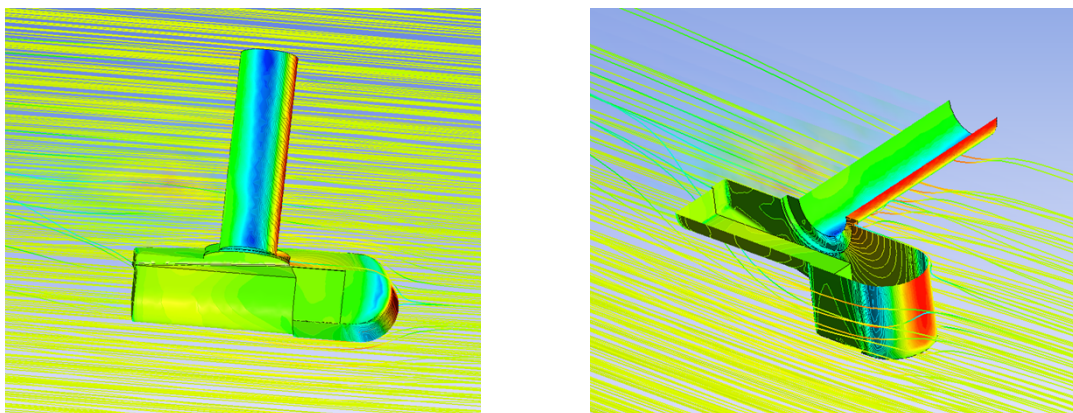
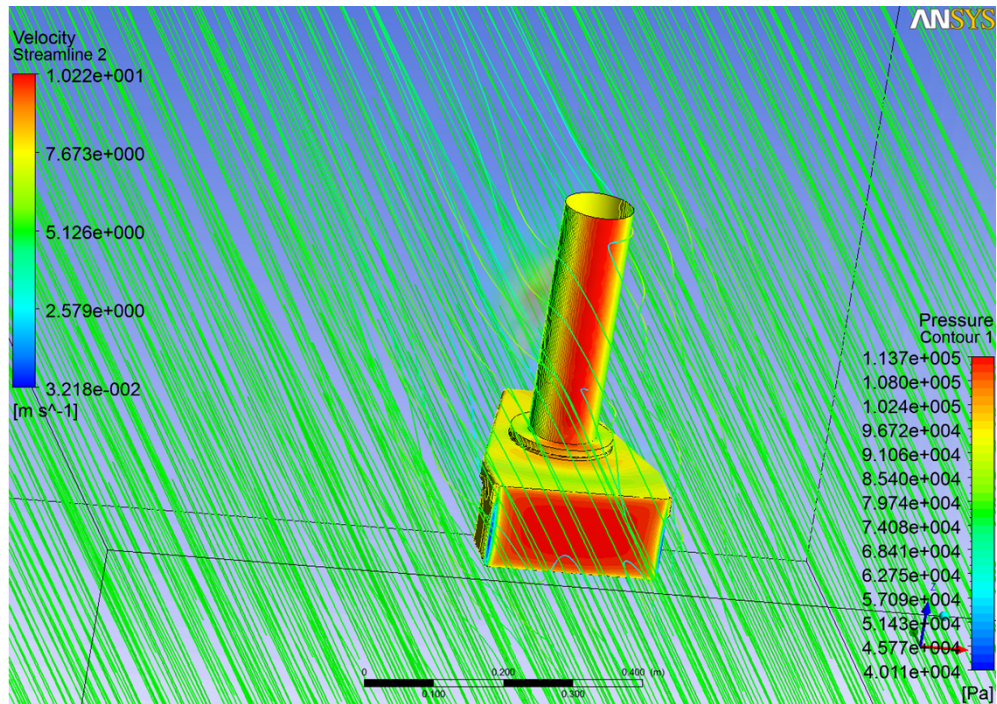
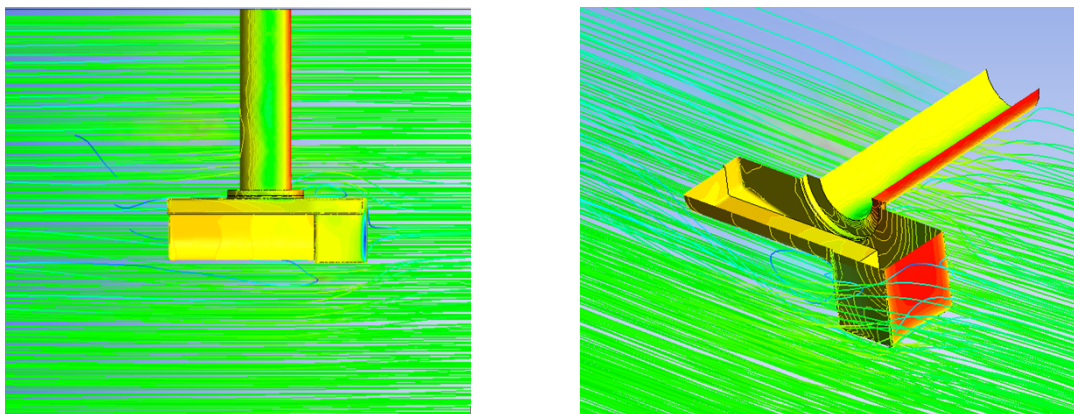

Figure 42: Flow around Single T20 (shallow) with Fairing, Cross Section of Symmetry Plane
Figure 43: Flow at 10 knots around Single T20 (shallow) without Fairing
Figure 44: Flow around Single T20 (shallow) without Fairing, Cross Section of Symmetry Plane
- T20 single head (shallow18) **with** front fairing (*Figure 41* and *Figure 42*) or **without** front fairing (*Figure 43* and *Figure 44*).
Figure 41 illustrates the flow at 10 knots around the T20 single head (shallow) with front fairing. The drag on the pole, sonar head, and bracket is in the region of 490N. The same situation without front fairing is shown in Figure 43.
Figure 42 is a cross section of the symmetry plane of the T20 single head (shallow). The front fairing and bracket assure a steady water flow around the receiver and projector. The same situation without front fairing is shown in Figure 44.
Figure 43 illustrates the flow at 10 knots around the T20 single head (shallow) without front fairing. The drag on the pole, sonar head, and bracket is in the range of 650N. The same situation with front fairing is shown in Figure 41.
Figure 44 is a cross section of the symmetry plane of the T20 single head (shallow). Without the front fairing the flow is still reasonable, but not as steady as with the fairing in front of the receiver. The same situation with front fairing is shown in Figure 42.